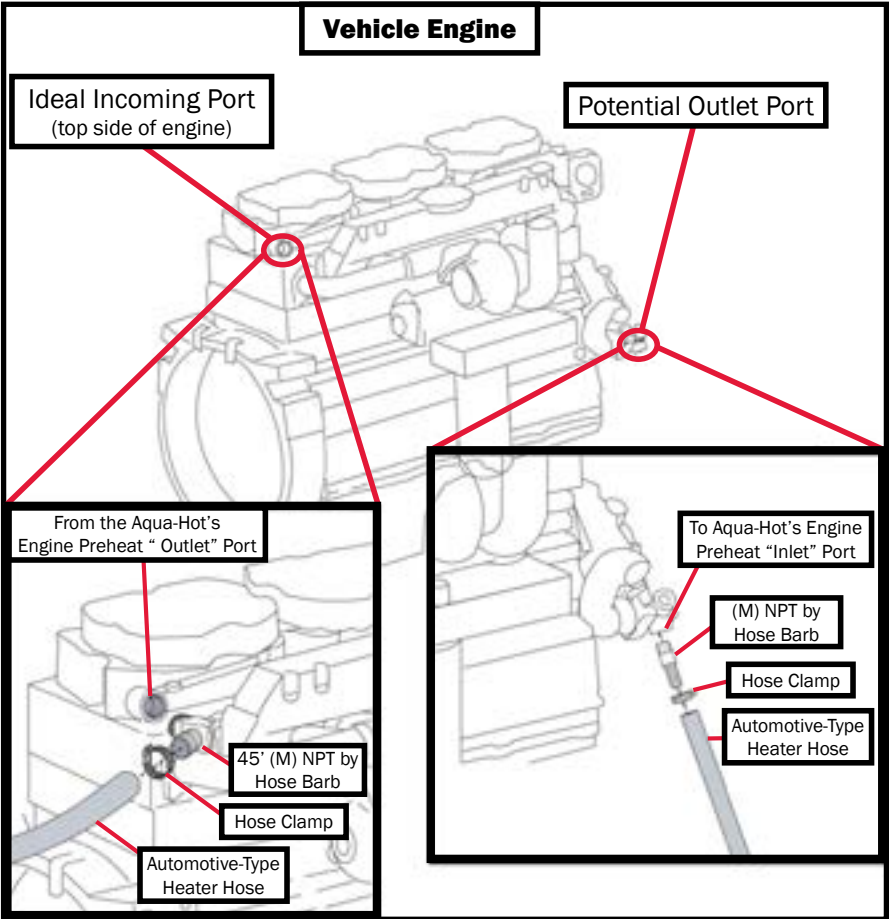

Figure 41
- The inlet and outlet ports on the vehicle's engine should be kept as far apart as possible. This will ensure that the entire engine is thoroughly preheated. See Figure 41.
- The engine's inlet port is where the heated coolant is transported to the engine block from the Aqua-Hot. This port should be a high connection point on the engine block. Refer to Figure 41.
- The engine's outlet port is where the engine's coolant is transported to the Aqua-Hot. This port should be a low connection point on the engine block or a pressure outlet port on the engine's water pump (Figure 41).
NOTE: The labels should indicate whether the plumbing line is transporting coolant to the Aqua-Hot, or if it will be transporting heated coolant to the vehicle's engine. Reference Figure 41.
5. Install and clamp both the inlet and outlet engine plumbing lines, automotive-type heater hoses to the engine's plumbing fittings. Reference Figure 41.